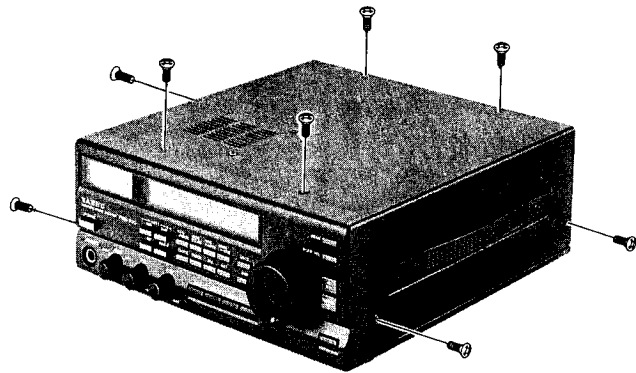

Fig. 1 Top Cover Removal
- Place the set on stable work surface with the front facing you, and remove the eight screws affixing the top cover (Figure 1). Do not remove the four screws attaching the loudspeaker, or the screws attaching the carrying handle. Slowly lift the top cover off.